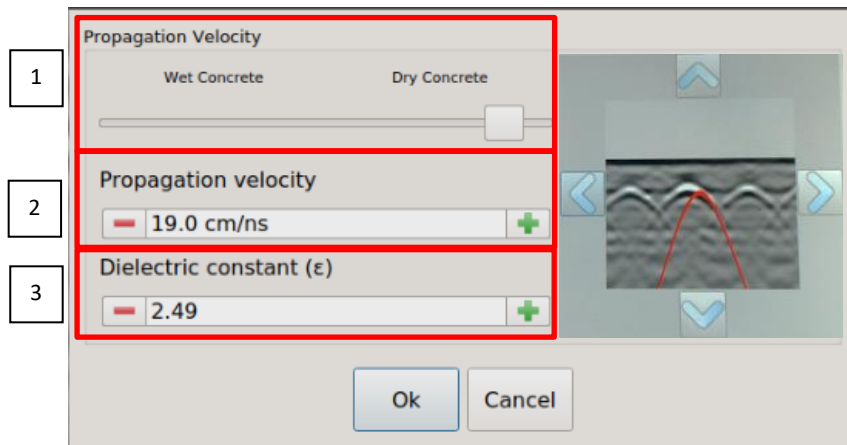

Fig. 73 – Propagation velocity window
5. Press and hold the screen on the hyperbola (Fig. 73), the software will automatically locate the top and a setting window will be opened; to better positioning the synthetic hyperbola, use the blue arrows on Propagation Velocity window .
2. Adjust the EM waves propagation velocity to adapt the synthetic hyperbola to the real one visible in the radargram (Fig. 73); it is possible to use the slider (1), insert the Propagation Velocity(cm/ns) (2) or Dielectric constant value ( $\epsilon$ ) (3) on the proper window.